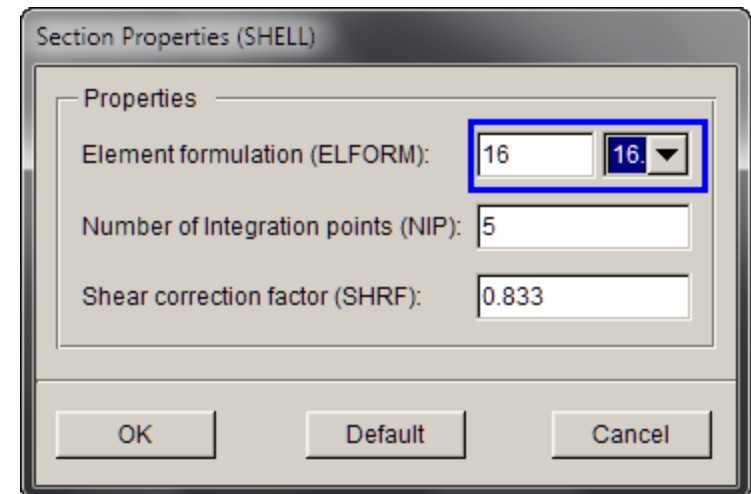

Figure 8
2. Define the element formulation as **16.Fully Integrated** (Figure 8).